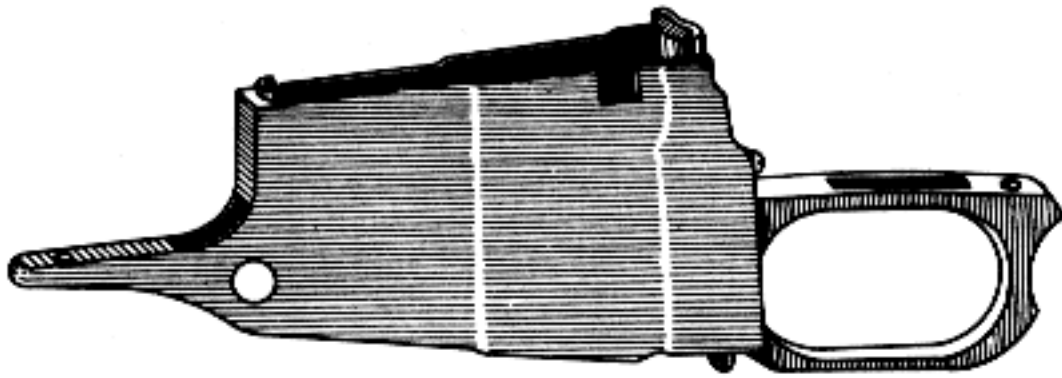

FIGURE 51. MAGAZINE AND TRIGGER GUARD.
- (4) To remove the magazine and trigger guard, extract the rear trigger guard screw from the top of the stock just forward of the small of the stock, and the front trigger guard screw from the forward part of the magazine on the bottom of the stock (figs. 49 and 50). (A screwdriver provided in the accessory kit is used for this purpose.) Pull the magazine and trigger guard (fig. 51) out of the stock.
- (5) The stock bands are removed by turning the screw to the right to expand the bands, then slipping the bands forward and off the stock.
- (6) To remove the one-piece interrupter-ejector, remove the screw and push the interrupter-ejector forward until it is disengaged from the dovetail.